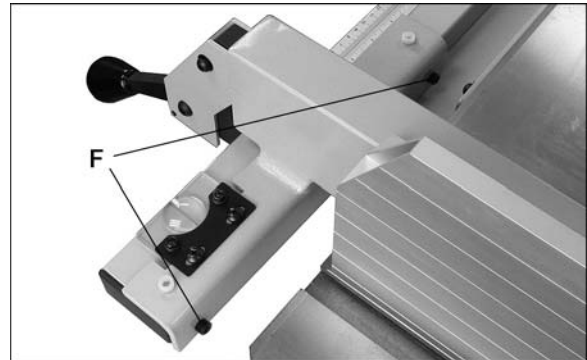

Figure 13
2. If adjustment is needed, use one of the back adjustment screws (F, Figure 13) to turn fence in line with miter slot (5mm hex key).
The tightness of fence against guide rail tube can be adjusted by rotating back adjustment screws (F, Figure 13). Rotate the two screws *equally* (clockwise to tighten).